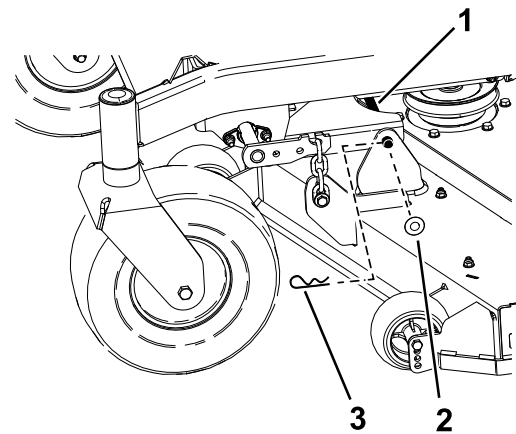

Figure 75
6. Remove the hairpin cotter and washer securing the link pin to the frame and deck, and remove the link bar (Figure 75).
9. Secure the link pin with the hairpin cotters and washers removed previously (Figure 75).